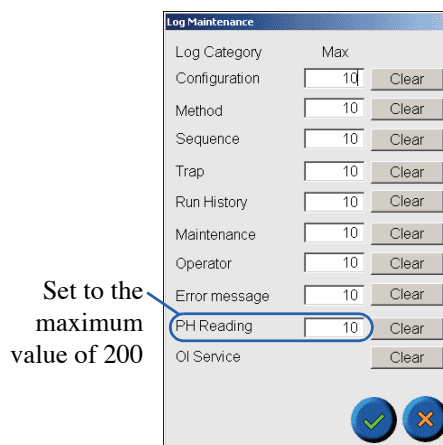

Figure 7.6. Log Maintenance dialog box
- b. Press **Log Maintenance** to access the Log Maintenance dialog box (refer to Figure 7.6).
- c. Set the value of **PH Reading** to the maximum of 200 to encompass the number of samples to be run (the value ranges from 0 to 200); refer to Figure 7.6.